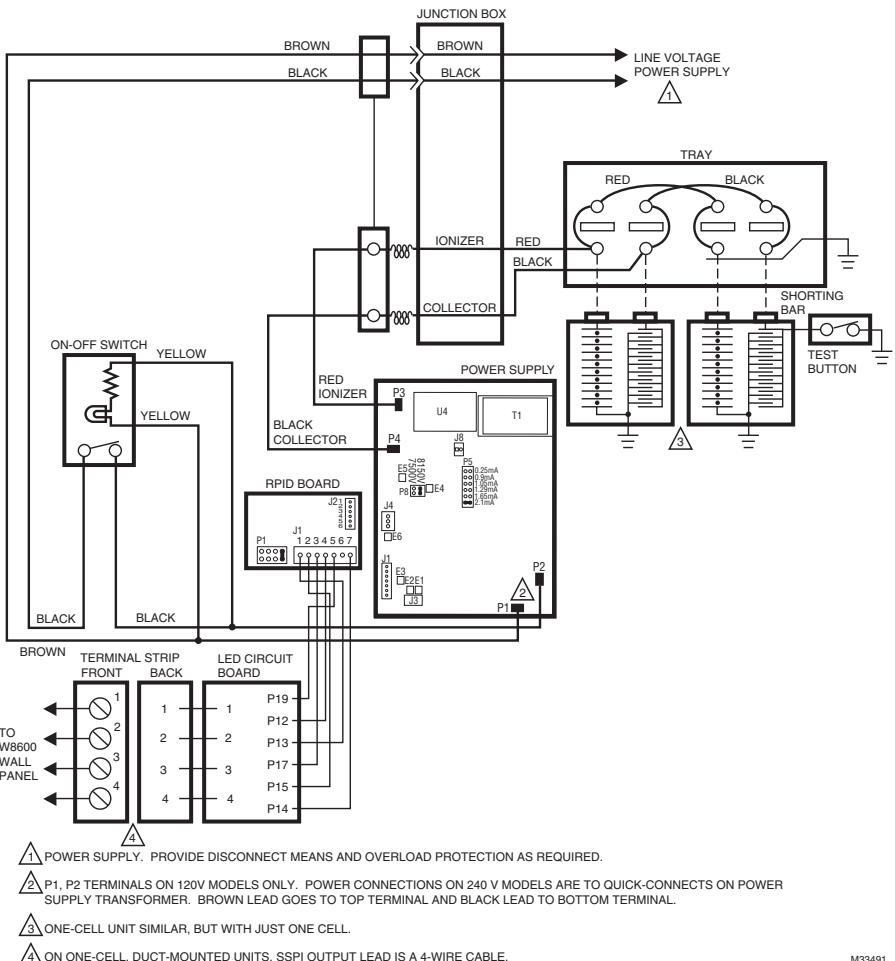

Fig. 7. Past electronic air cleaner (F50A&E, F52E) with W8600E—internal schematic.
- ❑ Connect the leads to the quick-connect terminals on the new power supply. See Fig. 7 through Fig. 20.
- ❑ When replacing the power supply, refer to the appropriate wiring diagram. See Fig. 7 through Fig. 20.